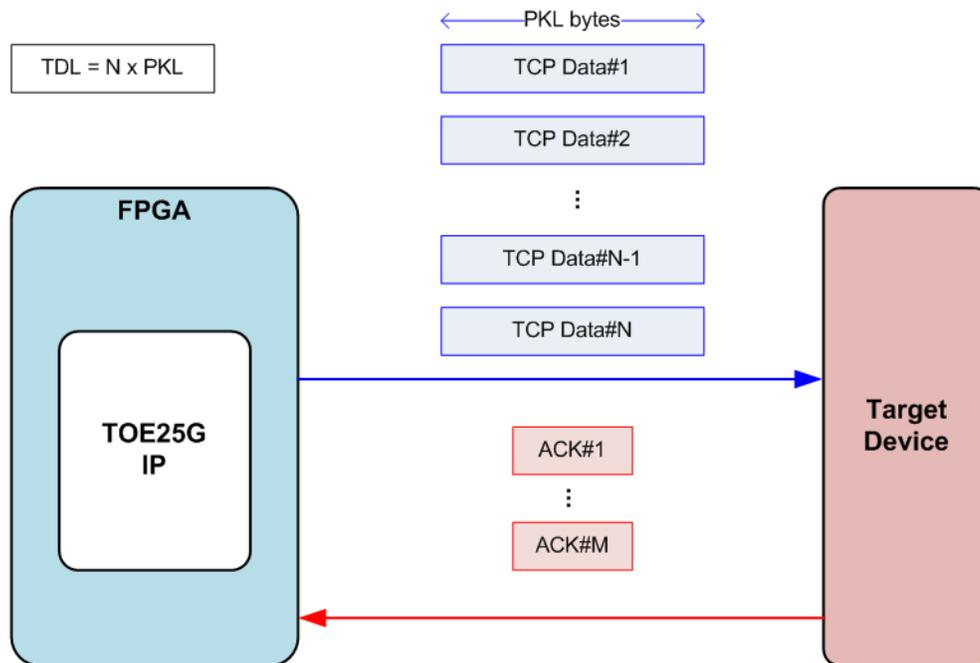

Figure 13: TCP packet when TDL = N times of PKL
When TDL value is equal to N times of PKL value, the data from user is split to N packets and forwarded to the target device, as shown in Figure 13. If the target device returns ACK packet to be the response for every TCP packet, there are N ACK packets in the network system. To improve network performance, the several ACK packets are combined to be one packet. This technique is called TCP delayed ACK. Therefore, the number of ACK packets returned from the target device (M) may be less than the number of data packets from TOE100G IP (N) when running Send command.